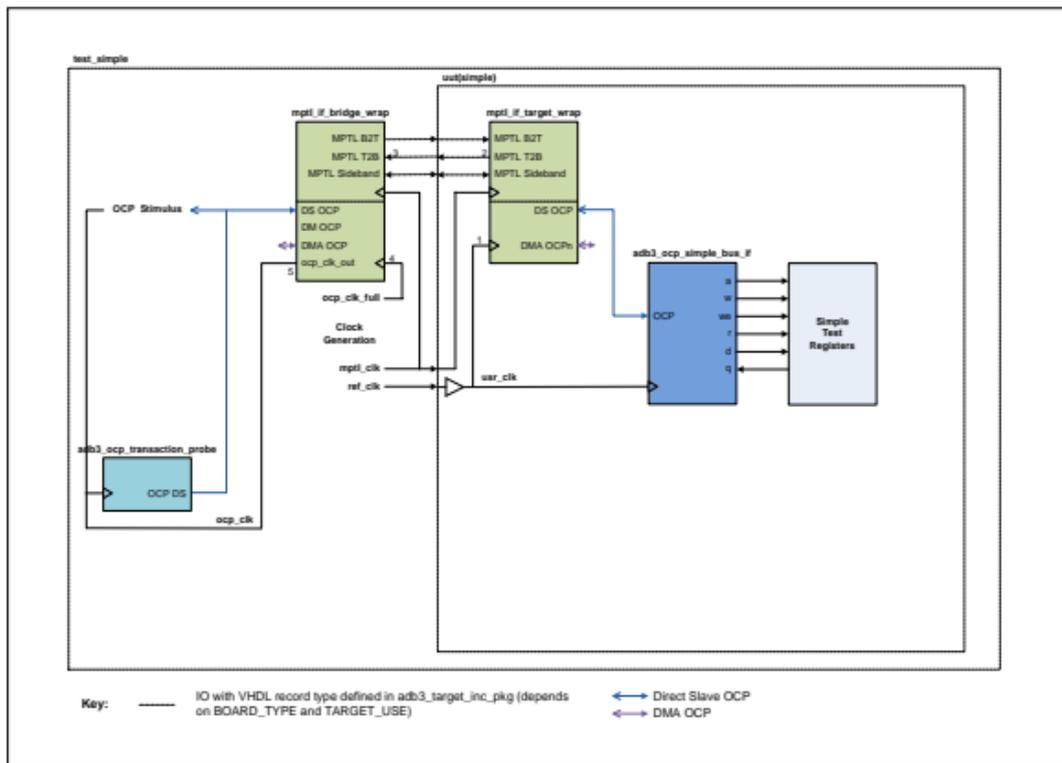

Figure 6: Simple Design Testbench Block Diagram
The testbench for the **Simple** example FPGA design is implemented in `hdl/vhdl/examples/simple/common/test_simple.vhd`. Figure 6 below shows the testbench, with the `simple_i` FPGA design embedded in it.
- In OCP-only simulation (**TARGET_USE = SIM_OCP**), the UUT's main OCP clock (**usr_clk** in this case) is routed out of the UUT (**simple_1**) via the **mptl_if_target_wrap** instance and into the testbench's instance of **mptl_if_bridge_wrap**. The **mptl_if_bridge_wrap** instance outputs this signal as **ocp_clk**. This route is shown in **Figure 6** as the route consisting of points 1, 2, 3 and 5.
- In full MPTL simulation (**TARGET_USE = SIM_MPTL**), **ocp_clk** is entirely independent of any clock within the UUT, and the testbench's **mptl_if_bridge_wrap** instance passes **ocp_clk_full** through to **ocp_clk**. This is shown in **Figure 6** as the route consisting of points 4 and 5.